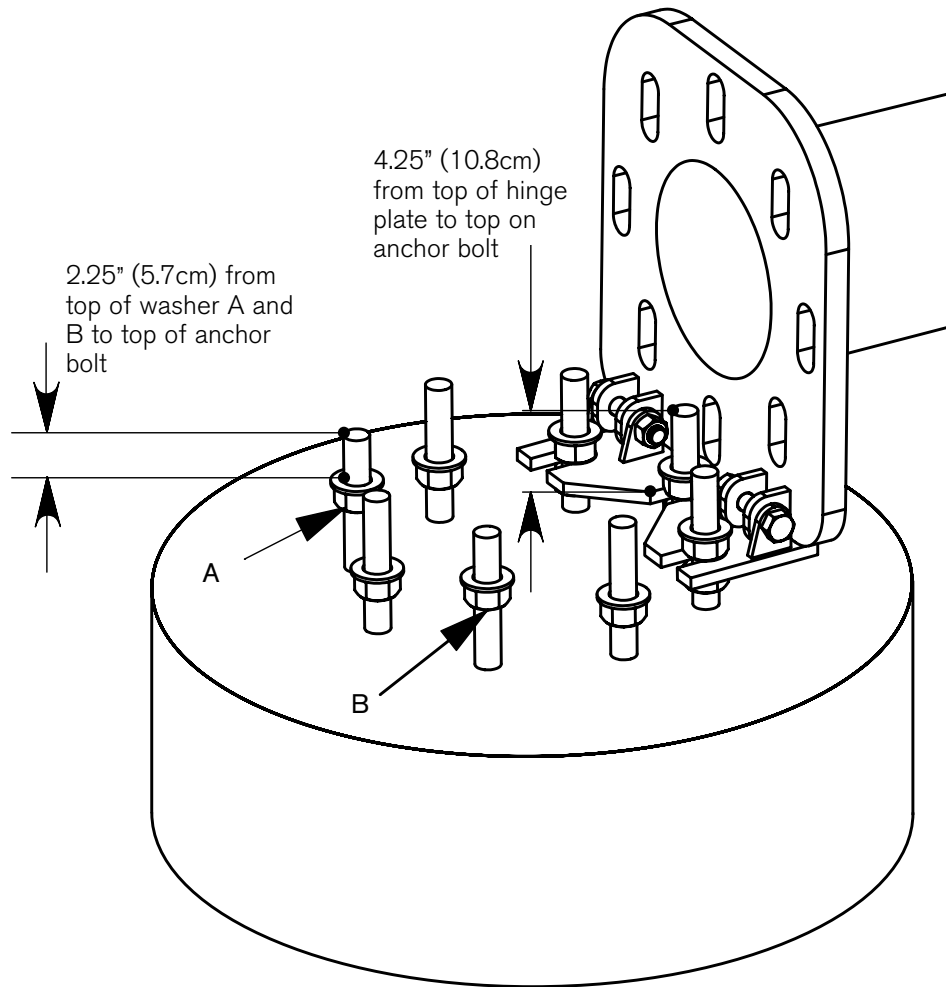

Fig. 2C Hinge assembly and nut placement.
- Determine the three foundation bolts to be used to mount the hinge. The hinge is installed in the direction the tower will be “tilted down”. Refer to **Fig. 2C**.
- Screw a 1 1/4" nut on each of the three foundation bolts that will be used to mount the tower hinge. Thread the nuts down so the top of the nut is approximately 5" (13 cm) from the top of the foundation bolt. Refer to **Fig. 2C**.
- Using suitable lifting equipment, lift the tower base (with hinge) and position the hinge slots between the nuts on the foundation bolts. Refer to **Fig. 2C**.
- Adjust the remaining nuts as shown in **Fig. 2C**. The "A" and "B" nuts should be adjusted such that 2 1/4" (5.7 cm) of the bolt extends above the washer. The remaining three nuts should be adjusted lower than the "A" and "B" nuts. These nuts will be tightened after leveling the tower.
- Securely tighten the 1 1/4" nuts that secure the hinge to the foundation bolts. Check the distance from the top of the hinge to the top of the foundation bolts is 4 1/4". Adjust if necessary. Refer to **Fig. 2C**.
- Loosen and lower the four nuts on the “sides” of the foundation base plate. In other words the tower should be supported by the four “corner” nuts of the tower base plate. (refer to **Fig. 2C**, Bolts A and B are “corner” bolts)